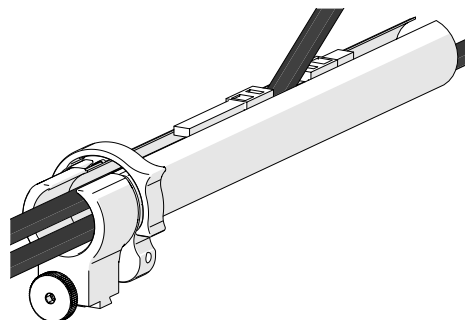

Fig. 83 - Flexibility
4. When necessary, the two zippers may be opened to allow cables to exit the tube anywhere between the ends (*Fig. 83*).